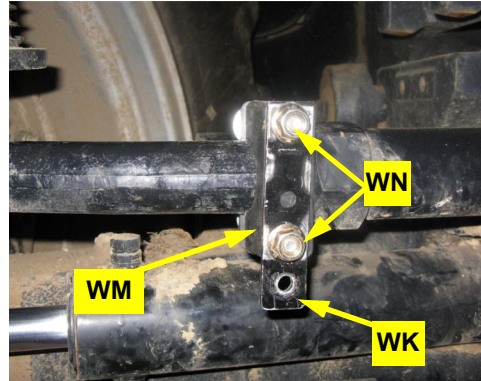

Figure 2b: Installed WAS clamp and bracket
b. Attach plastic clamps **WM** and bracket **WK** to the tie rod with hardware **WN** next to the locking nut (Figure 2b).